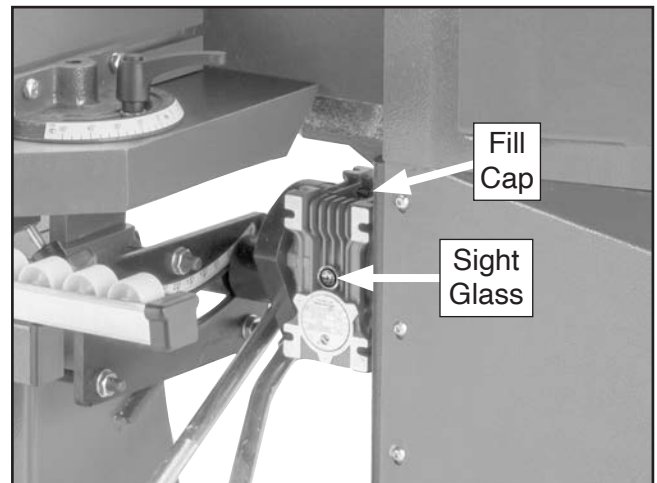

Figure 27. Location of gearbox sight glass and fill cap.
1. Check gearbox oil level in sight glass (see **Figure 27**).
2. Remove fill cap (see **Figure 27**), add oil until it fills half of sight glass, then install fill cap.